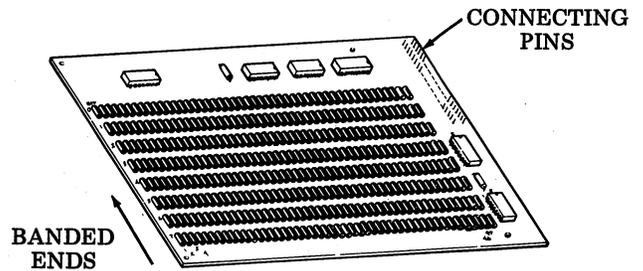

Fig. 19—410734 Diode Matrix Circuit Card
4.04 To option the 410734 diode matrix circuit card (Fig. 19), the card must be removed from the 410733 controller card assembly.
(c) Unplug connector from 410734 diode matrix card (Fig. 19).